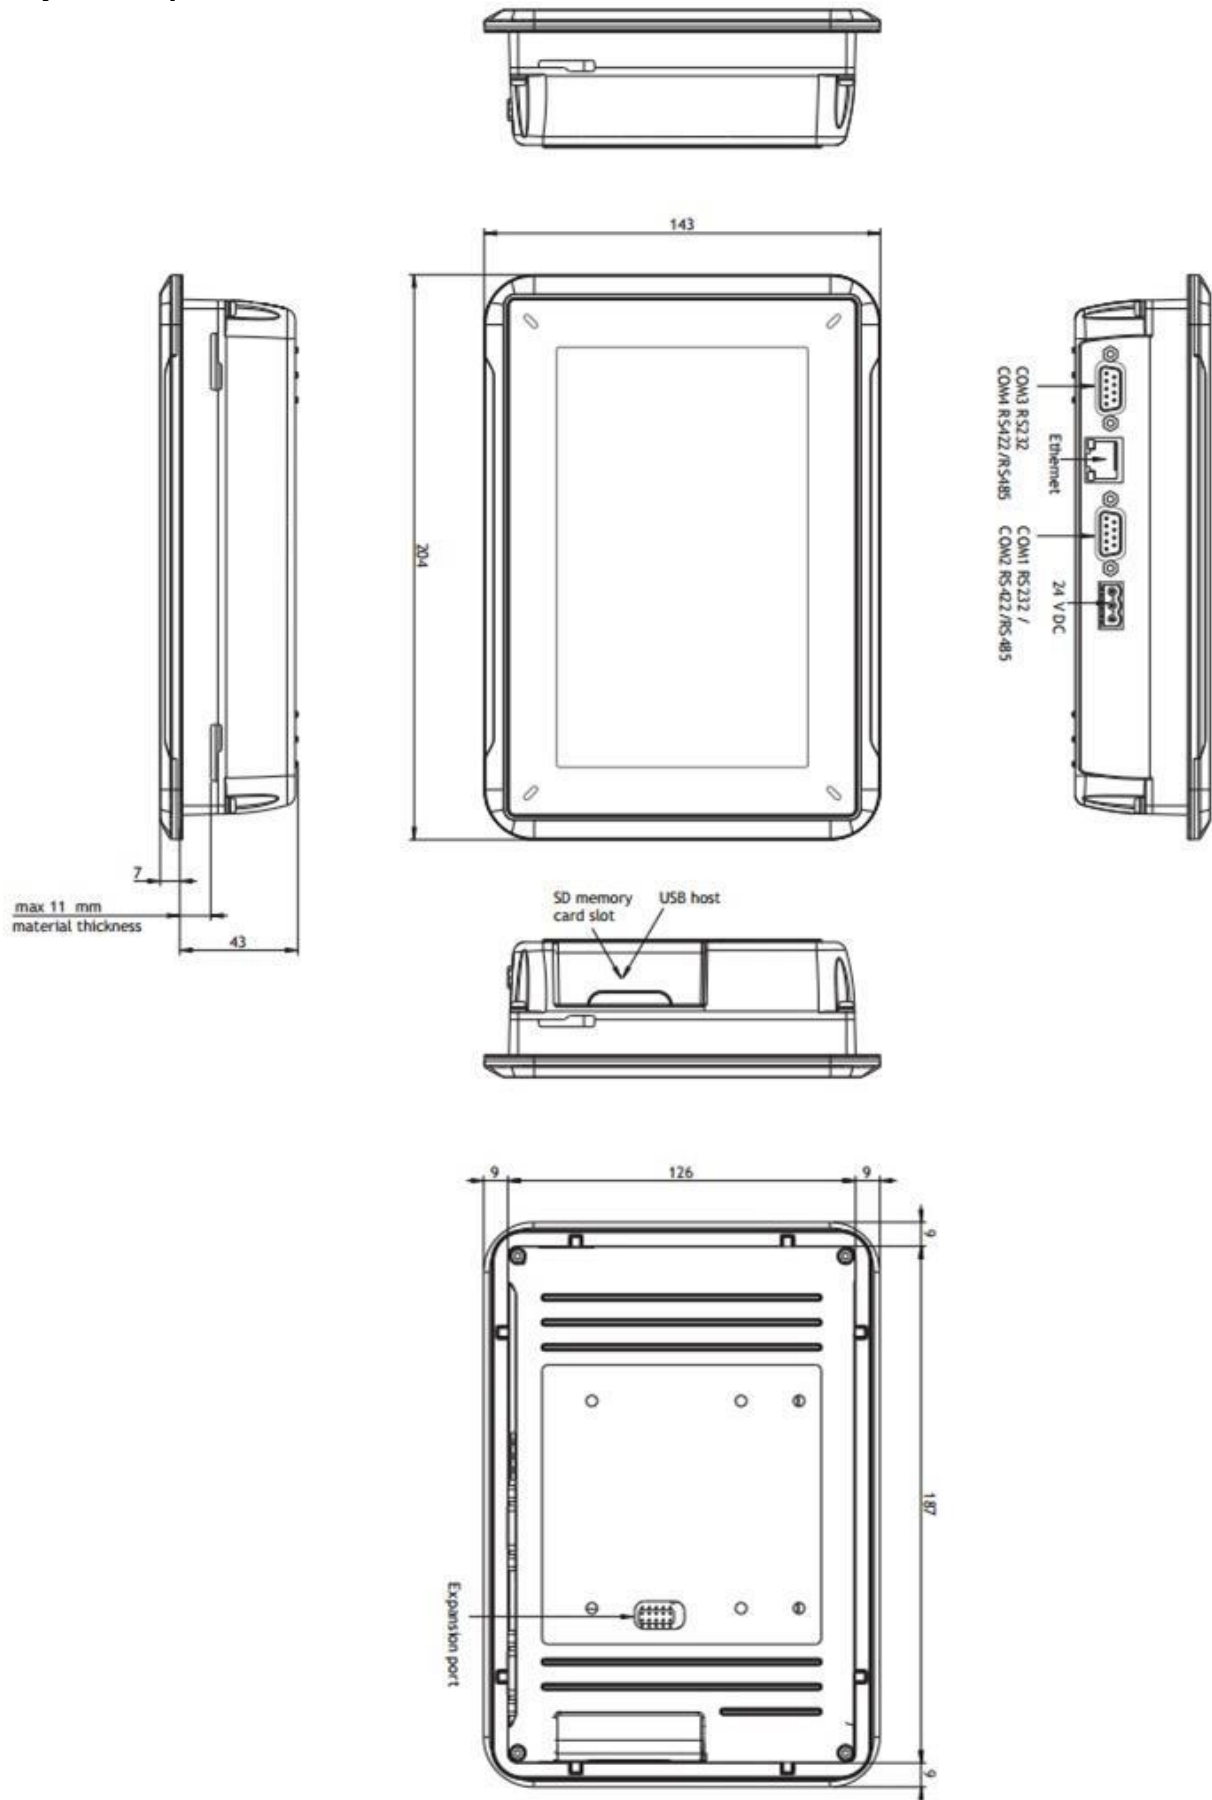

Figure 9: Beijer T7A external dimensions
1. Use the dimensions shown in Figure 9 to cut a suitable opening in the instrument panel for the operator panel.